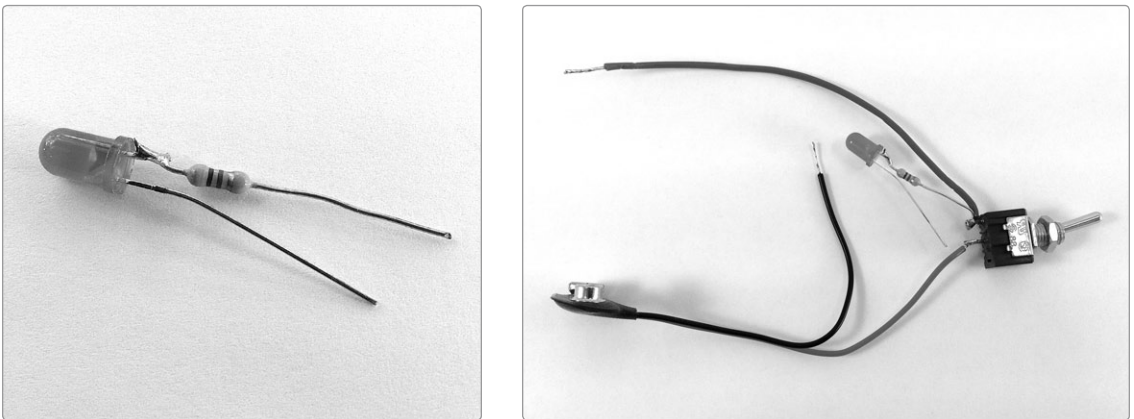

FIGURE 12-5: *The completed power supply (detail of the LED assembly on the left)*
Step 5 Solder the 470 ohm resistor (marked with yellow-violet-brown stripes) to the positive LED lead, which is the longer one. The shorter, negative lead is the one closest to the flat section of the LED's mostly round casing. The finished indicator LED is shown on the left of Figure 12-5.
Step 6 Now for the power switch itself. Start by tinning both lugs of your toggle switch. Next, cut one 5-inch length of insulated wire and strip and tin the last 1/4 inch of each end. Then strip and tin the final 1/4 inch of both the red and black leads attached to the 9-volt battery clip. Solder the positive (red) lead to one lug of your switch. To the remaining lug, solder both the 5-inch length of wire and the resistor side of the indicator LED assembly (see Figure 12-5, right).